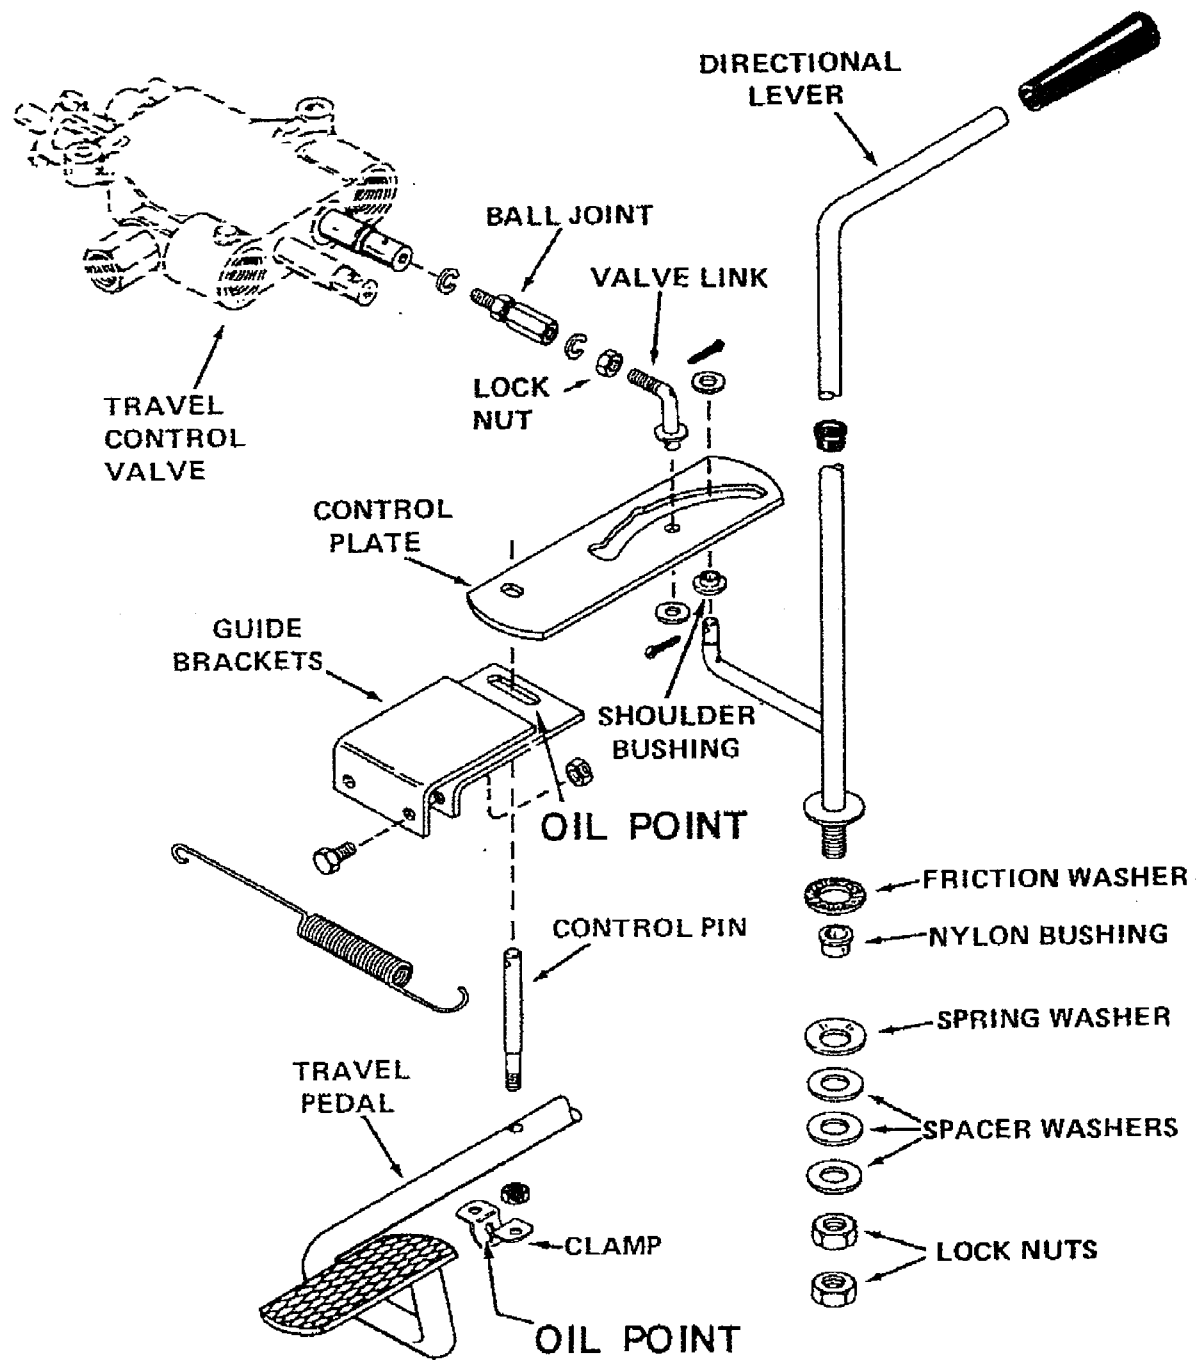

FIGURE 27
3. Install the new bushing as shown in Figure 27. The smaller diameter of the bushing must fit into the slot in the control plate.